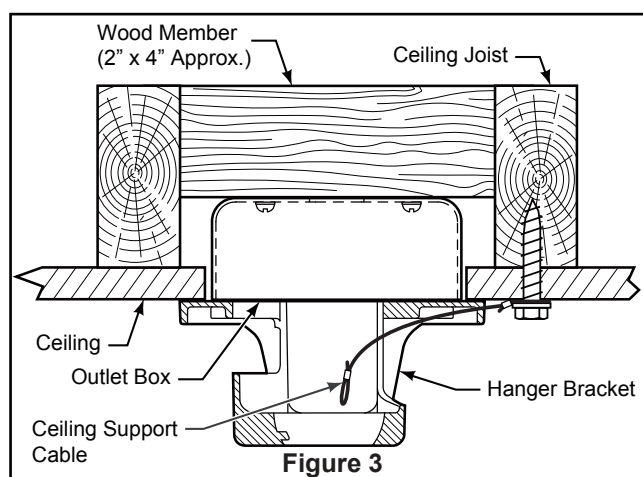

Figure 3
3. Assemble the support arms of the motor assembly to upper grill assembly using the truss head screws, spring washers and acorn nuts. Make sure the screws securing the support arms to the upper grill assembly are tight and properly seated. (Figure 3)
1. Securely attach the hanger bracket to the outlet box using the outlet box screws and washers supplied with the outlet box. (Figure 3)
2. Drill a 1/4" pilot hole into the building structure to prevent splitting or cracking with installation of the lag bolt. Using the 3/8" x 2" lag bolt and flat washer, attach safety cable to ceiling joist or wood structural member. The lag bolt will pass through the flat washer, safety cable loop, and into the building structure. (Figure 3) **NOTE:** Ceiling support cable cannot be secured to outlet box only, it must be directly secured to ceiling joist or structural member using the 3/8" x 2" lag bolt and flat washer. (Figure 3)
2. Slide the receiver into the hanger bracket before wiring as shown in figure 3.